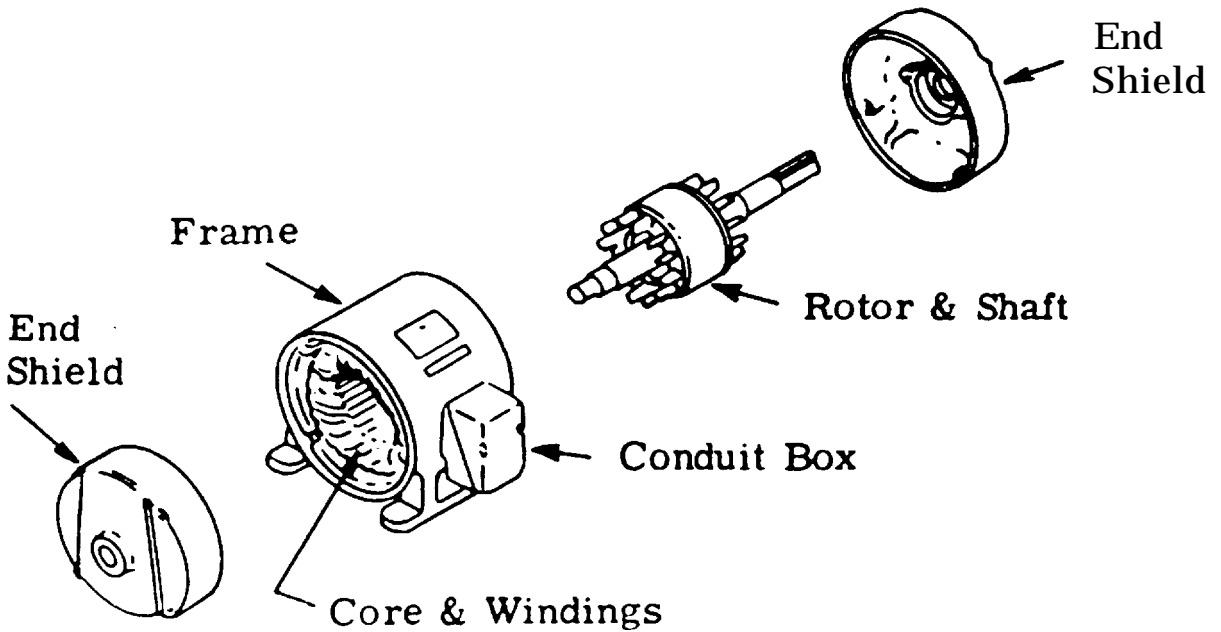

Figure 4-4. Primary parts of an AC induction motor.
(1) *Stator and rotor windings.* The primary parts of a typical motor are (fig 4-4): the frame and base that support the assembled motor; the stator which is the stationary part consisting of an iron core and insulated windings; and the rotor which is the rotating element. The term armature is often used in lieu of rotor, particularly with DC motors and for AC motors with commutators or collector rings and brushes. Most stator and rotor problems can be traced to winding failures. The life of a winding depends upon keeping it as near to its original condition as long as possible. Insulation failure causes immediate outage time. The following points should be carefully examined and corrective action taken during scheduled inspections to prevent operation failures.